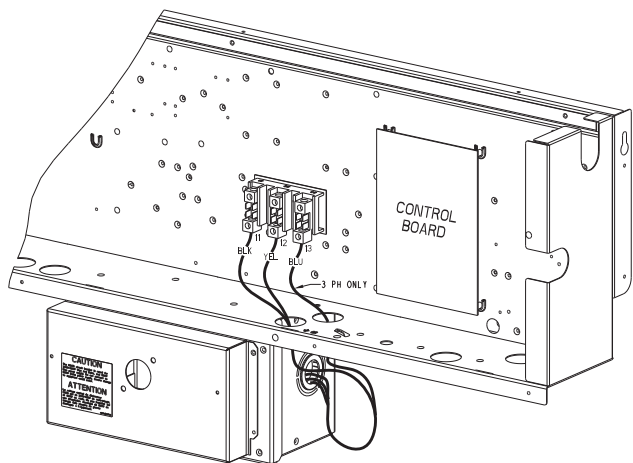

Fig. 29 — HACR Enclosure Location
1. Remove the Control Box access panel. The HACR enclosure is located below the Control Box (see Fig. 29).